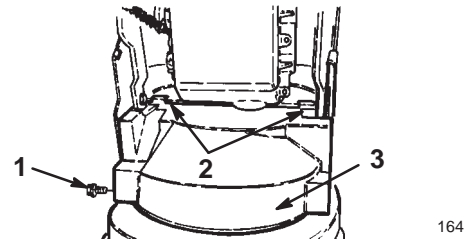

Figure 4
11. Install the lower belt cover on the underside of the auger/impeller housing and the engine frame with 2 (1/2-inch) flange-head bolts (Fig. 4).
15. Mount the upper belt cover to the engine frame with 3 flange-head bolts (1/2-inch) (Fig. 4).